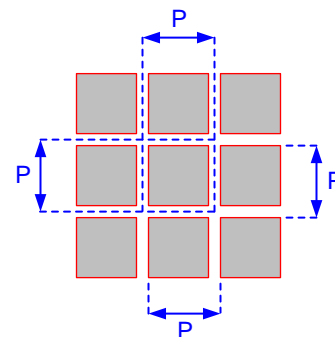

Figure 9. Micromirror Array Physical Characteristics
- (1) See Figure 9.
- (2) The structure and qualities of the border around the active array includes a band of partially functional micromirrors called the *Pond Of Mirrors* (POM). These micromirrors are structurally and/or electrically prevented from tilting toward the bright or "on" state but the requirement of an electrical bias to tilt toward "off remains."